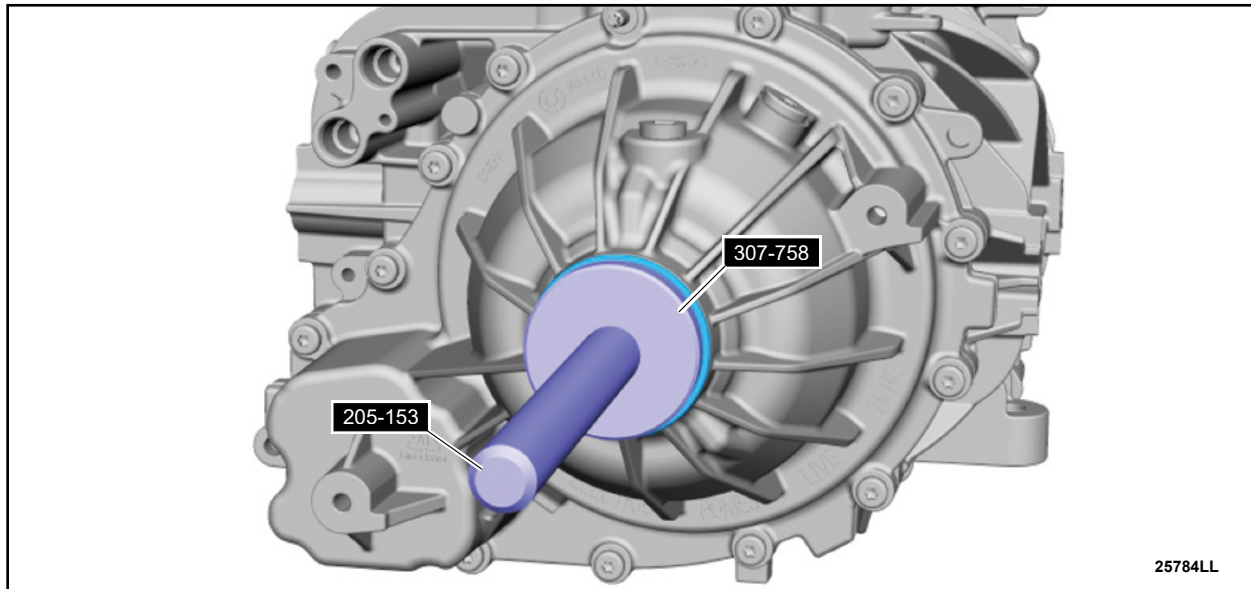

**FIGURE 33**
36. Using the special tools, remove and discard the LH rear halfshaft seal. See Figure 33.